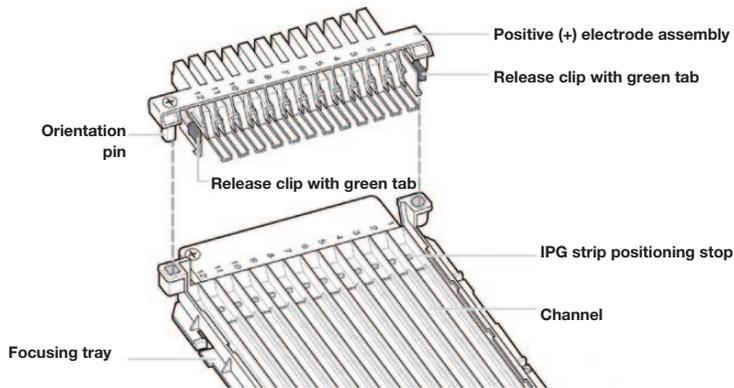

Fig. 2.1. Placement of an electrode assembly onto the i12 focusing tray.
The PROTEAN i12 electrode assemblies have 12 electrodes that fit the 12 channels in the i12 focusing tray. Each electrode accommodates the use of electrode wicks and both the gel side-up and gel side-down IEF configurations: a bridge on each electrode fits into the recessed area of the focusing tray to create the flat surface required for the gel-side down configuration, and the electrodes are spring-loaded, which allows them to exert a gentle downward pressure for the gel-side up configuration. Several features of the electrode assemblies ensure their correct and complete attachment to the focusing tray (Figure 2.1):
1. Grasp the electrode assembly by the release clips and position the orientation pins as shown in Figure 2.1.